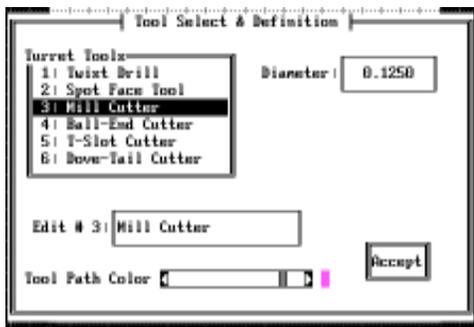

Figure 3.3
2. Choose **CAM-Select Tool** with the mouse or <ALT>-C T from the keyboard. See **Figure 3.3**.